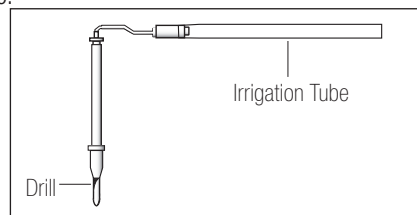

Fig.11
- 3) Insert the Internal Irrigation Nozzle into the drill from the back. (Fig.11)